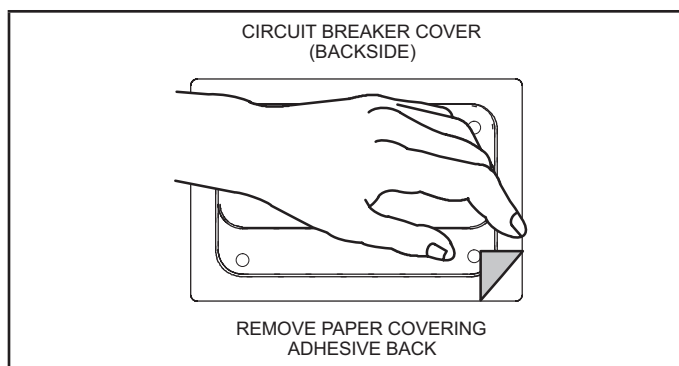

FIGURE 14. Remove Paper Cover
- 2 - Remove paper backing from the adhesive around the perimeter of the back side of the circuit breaker cover (figure 14).